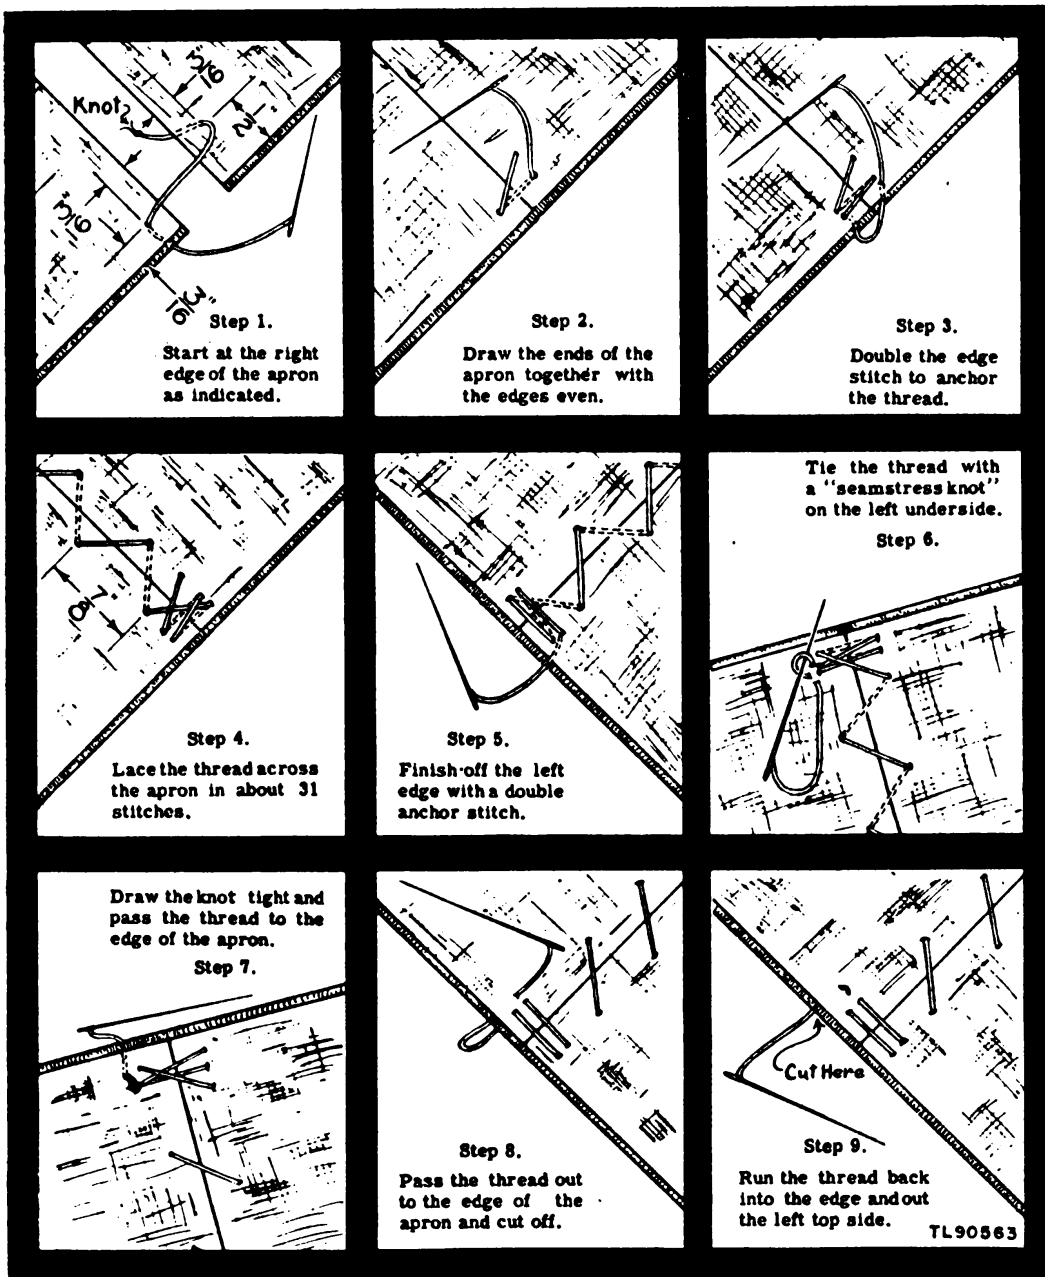

Figure 13. Lacing of apron.
(3) Unroll the apron and carry the other end up from the main driving roller, under the stripping rod, and over and around the three standard drive roller assemblies. From here take the end below the feeding table roller to meet the first end, and then fasten the ends together with a temporary cross-stitch of thread.
(4) To lace the apron, thread the large needle packed with each replacement apron with 8 feet of thread; double the thread and knot the ends together. Proceed with the steps shown in figure 13.